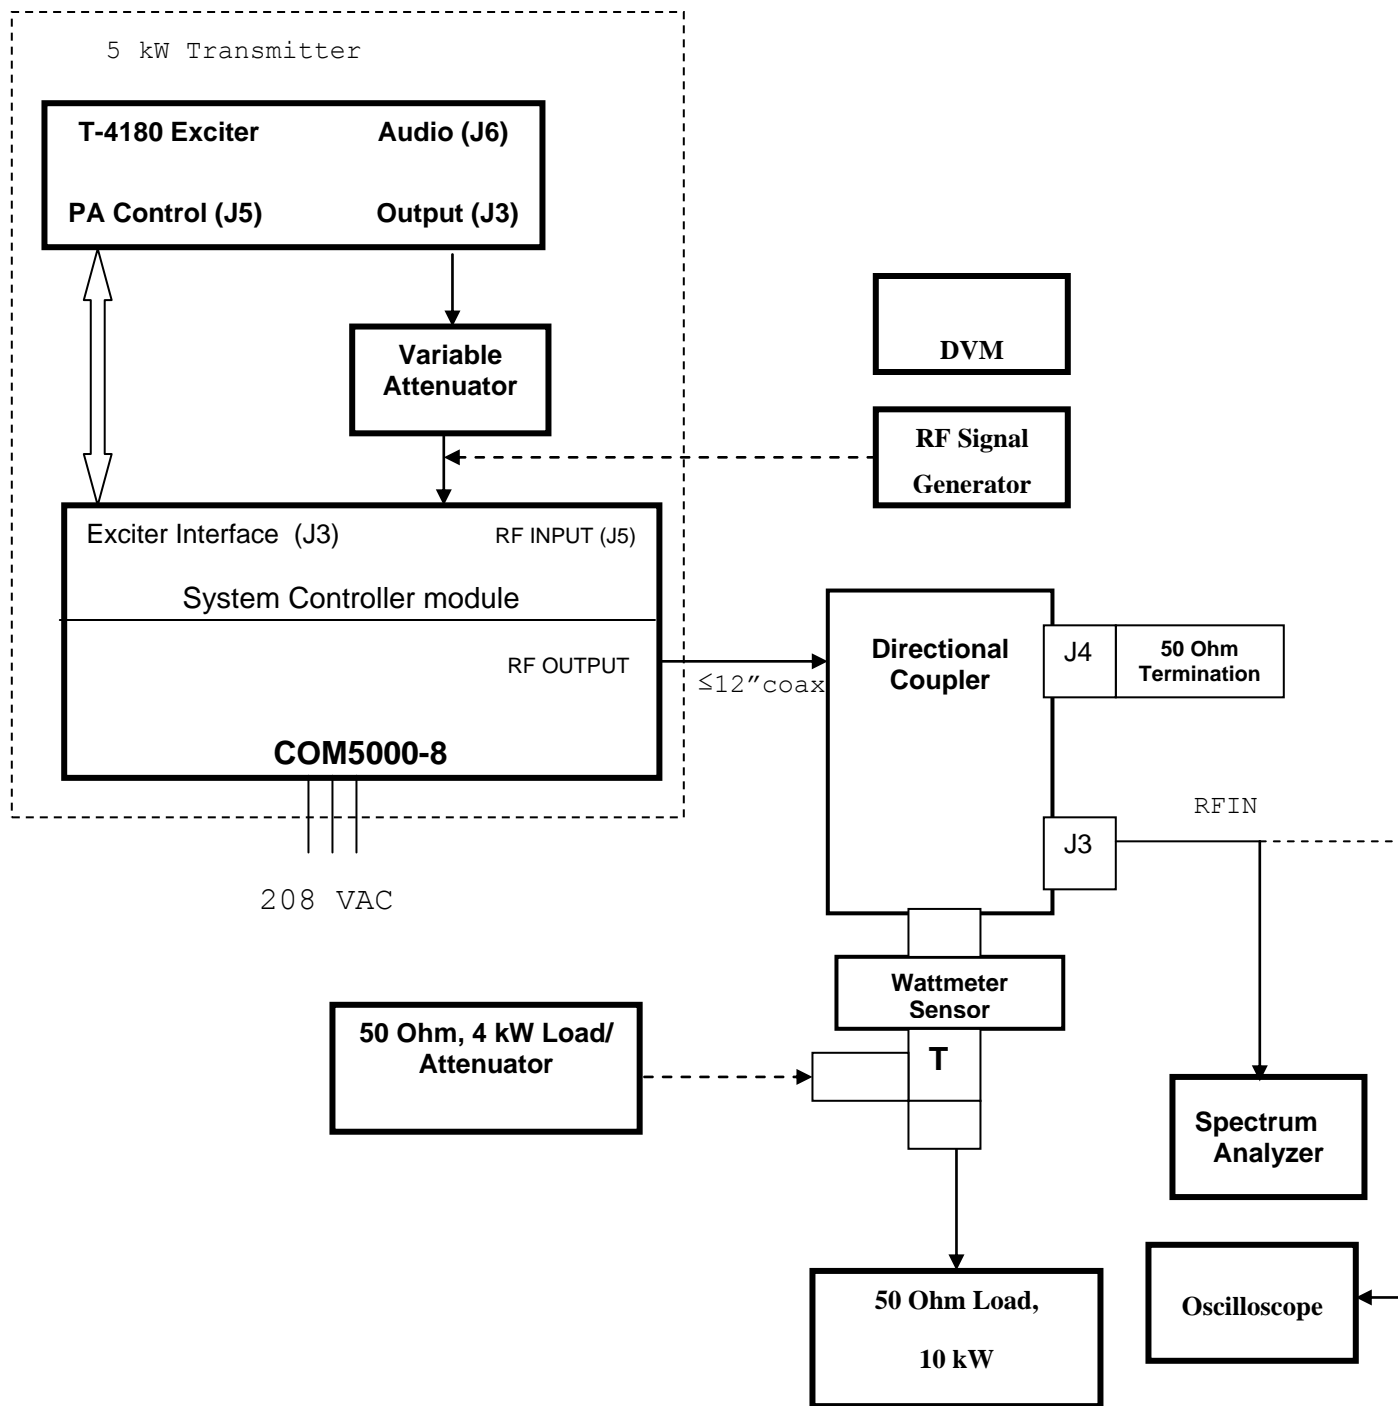

Figure 5.4.3.3. Test set up for System Controller operational adjustment
- a. Set up per figure 5.4.3.3. Command the Transmitter to operate on a frequency of 15 MHz, CW mode. Set the variable attenuator for maximum attenuation. Key the Transmitter.